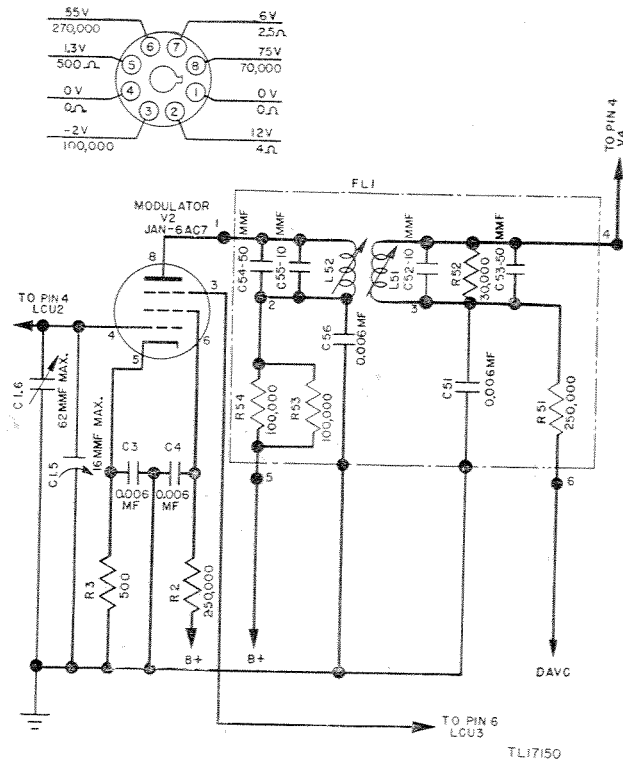

Figure 26. Radio Receiver BC-603-(*) , modulator, V2—schematic diagram.
33. Parts List for Modulator Stage, V2 (fig. 26)